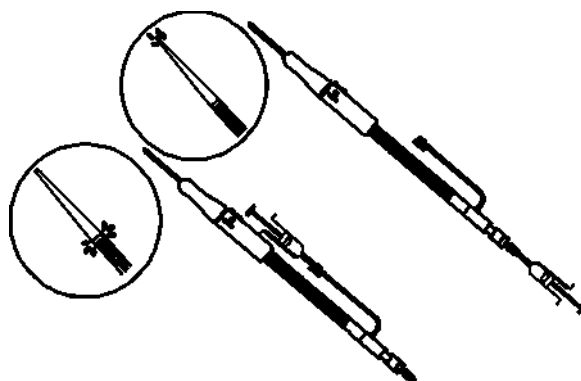

Рис. 3 Промывка внутренней трубки и внешнего интродьюсера
- ◆ Attach the syringe with heparinized saline to the luer hub and hemostatic valve and flush separately to evacuate air from the inner tube and the outer sheath. (Fig.3)